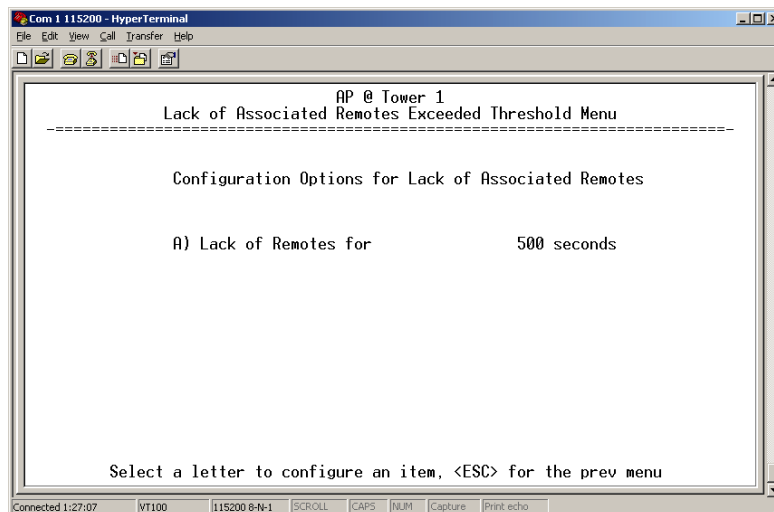

Figure 3-77. Lack of Associated Remotes Exceeded Threshold Menu
- **Lack of associated remotes exceeded threshold**— This setting determines whether or not a switchover occurs when a lack of associated Remote units exceeds the time period set in Figure 3-77 on Page 108. [enabled, disabled; disabled]
- **Lack of Associated Remotes Exceeded Threshold**—This selection opens a submenu (Figure 3-77) where you can view or change the time period allowed for a lack of associated Remotes.